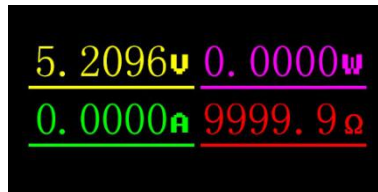

Figure 2
1、 Close-up page (see Figure 2)